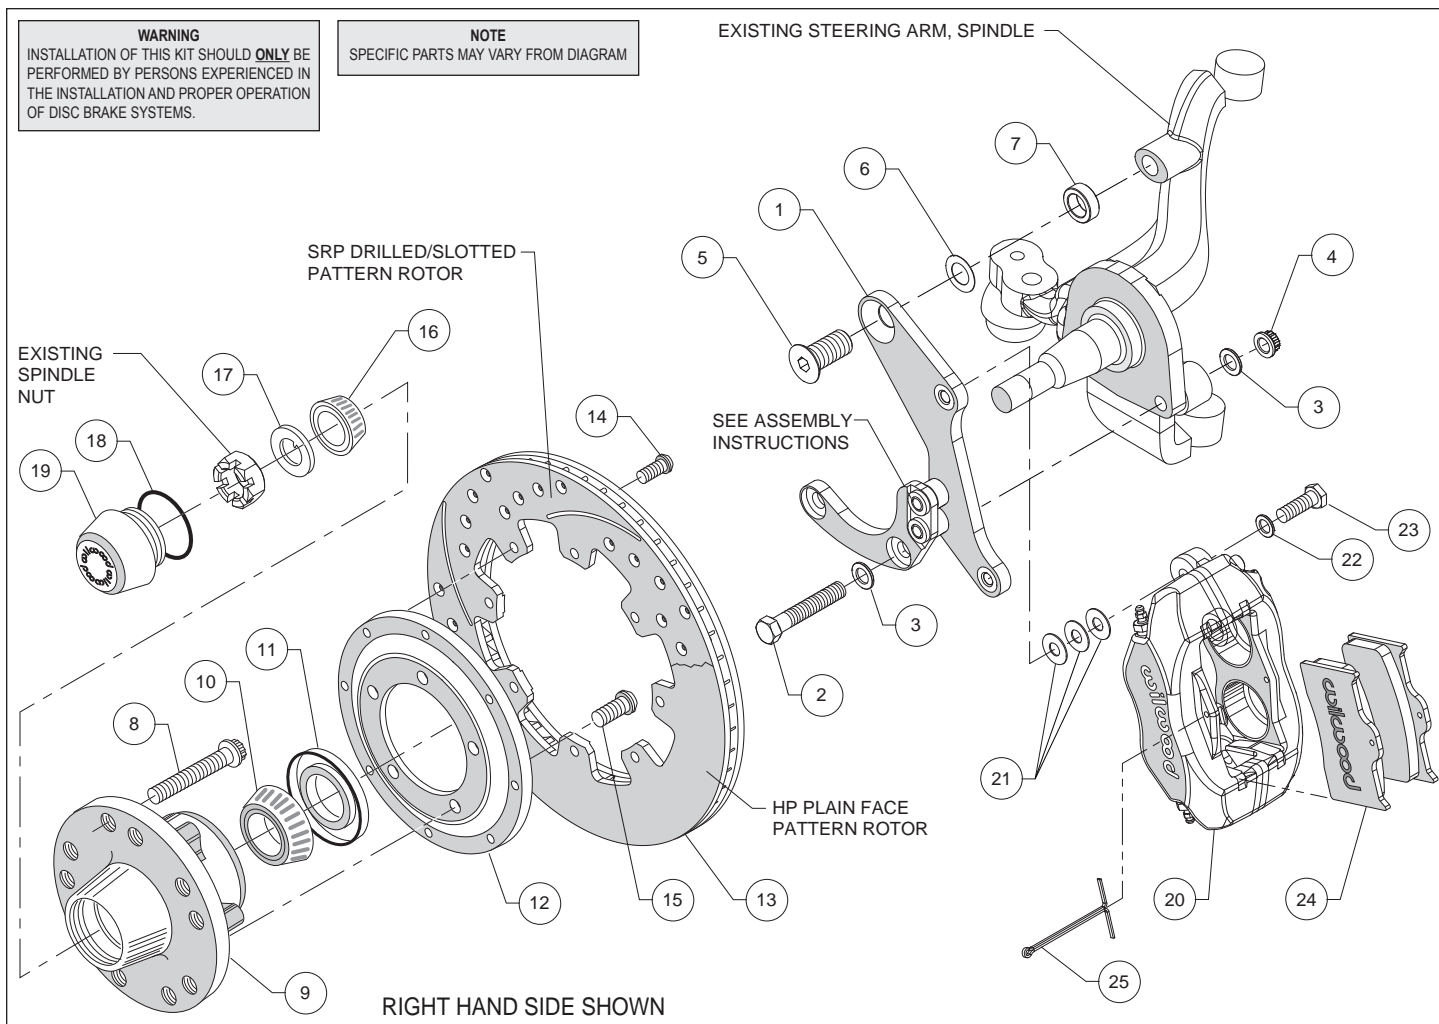
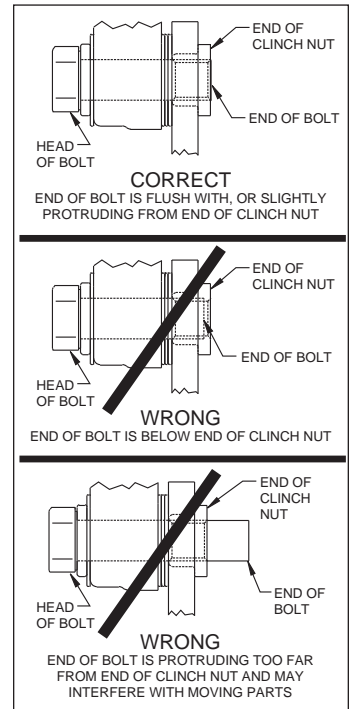

Figure 1. Typical Installation Configuration
Figure 3. Clinch Nut Engagement Diagram
Assembly Instructions (numbers in parenthesis refer to the parts list and Figure 1 on the preceding pages): **CAUTION:** All mounting bolts must fully engage clinch nuts. Be sure to check that all bolts are either flush or protruding through flanged side of clinch nut after shimming, Figure 3.
- The caliper mounting bracket (1) has been assembled at the factory for alignment purposes. Loosen the two bolts that secure the brackets together so that the bolts are hand tight only. This will enable the bracket assembly to be adjusted to accommodate various spindle tolerances during assembly. Align bracket with the two lower holes on the spindle face and attach using bolts (2), and washers (3), and secure using nuts (4), as shown in Figure 1 and Photo 1. Install bolt (5) through top of bracket while placing shim (6) and spacer (7) between bracket and spindle, Figure 1. Initially use one .015" thick shim (6) on the top bolt between the bracket and upright. Temporarily tighten the mounting bolts. Ensure that the flanged heads of the clinch nuts in the bracket are facing outboard, Photo 1. **NOTE:** The bracket must fit squarely against the mounting points on the spindle. Inspect for interference from casting irregularities, machining ridges, burrs, etc.
- Check that the bracket is aligned parallel to the rotor by assembling and installing the hub/rotor per the steps below. If not, adjust by adding or subtracting shims (6) between the spacer (7) and bracket, Figure 1.
- Install the grease seal (11) by pressing into the backside of the hub (9), flush with the end of the hub, Photo 3.
- Orient the rotor (13) and the rotor adapter (12) as shown in Figure 1 and Photo 4. Attach the rotor to the adapter using bolts (14). Using an alternating sequence, apply red *Loctite*® 271 to the threads, and torque to 25 ft-lb.
- Mount the adapter/rotor assembly (12/13) to the hub (9) using bolts (15), as shown in Figure 1 and Photo 5. Using an alternating sequence, apply red *Loctite*® 271 to the threads, and torque to 55 ft-lb.
- Pack the small outer bearing cone (16) with high temperature disc brake bearing grease and install into hub (9). Slide the hub/rotor assembly onto the spindle. Secure using spindle washer (17) and OEM spindle nut, Photo 6. Adjust bearings per OEM specifications. Install saved OEM nut lock (if any) and a new cotter pin (not supplied).
- Screw dust cap (19) into hub (9), Photo 7. Friction created by the o-ring (18) on the dust cap keeps it from unscrewing. **NOTE:** The O.D. of the existing OEM spindle washer may be larger than the I.D. of the dust cap not allowing it to seat against the hub face. Therefore, use the spindle washer (17) supplied with the kit instead of the OEM washer.
- NOTE:** Please reference the caution statement at the beginning of the assembly instructions. Mount the caliper (20) onto the caliper mounting bracket (1) using bolts (23) and washers (22), as shown in Figure 1. Initially place two .035" thick shims (21) on each bolt between the caliper and the bracket, Photo 8. Temporarily tighten the mounting bolts and view the rotor (13) through the top opening of the caliper. The rotor should be centered in the caliper, Photo 9. If not, adjust by adding or subtracting shims between the bracket and the caliper. Always use the same amount of shims on each of the two mounting bolts. **NOTE:** The end of each bolt must be flush with or slightly protruding from the head of the clinch nut, as shown in Figure 3. If necessary place spare shims between washer (22) and caliper mounting ear to achieve the proper clinch nut engagement. Once the caliper alignment and clinch nut engagement are correct, remove the bolts one at a time, apply red *Loctite*® 271 to bolt threads, and torque to 40 ft-lb.
- Install the disc brake pads (24) into the caliper, with the friction material facing the rotor (13), and secure in place using cotter pin (25), Photo 10.